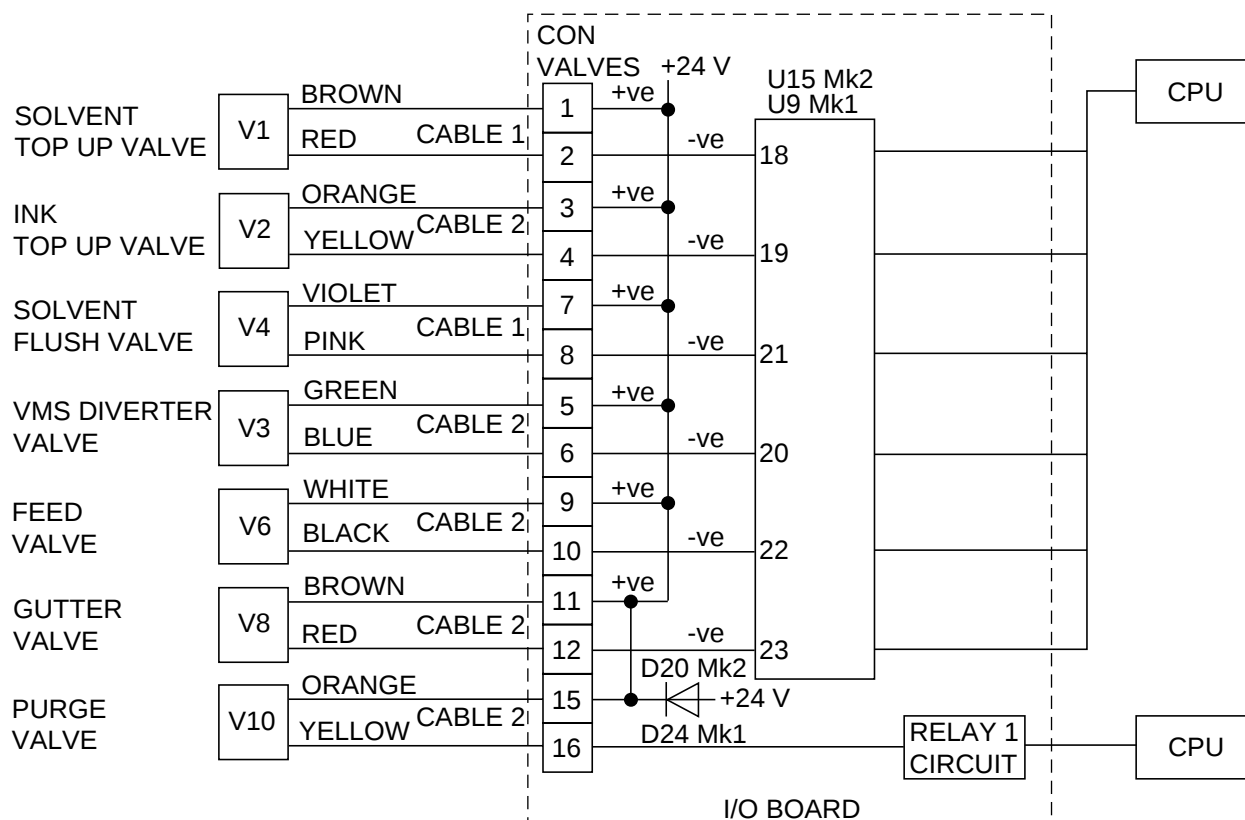

Fig 11.14 Valve circuits
20 Figures 11.14 to 11.25 are simplified schematic diagrams of the circuits listed below. Each one has an associated table (Table 11.14 to 11.25) giving signal tracing information. The diagrams should be used in conjunction with the fault finding tables (Table 11.1 to 11.13) to locate faulty components and sub-assemblies.
20.1 Fig 11.14 - Valve circuits.